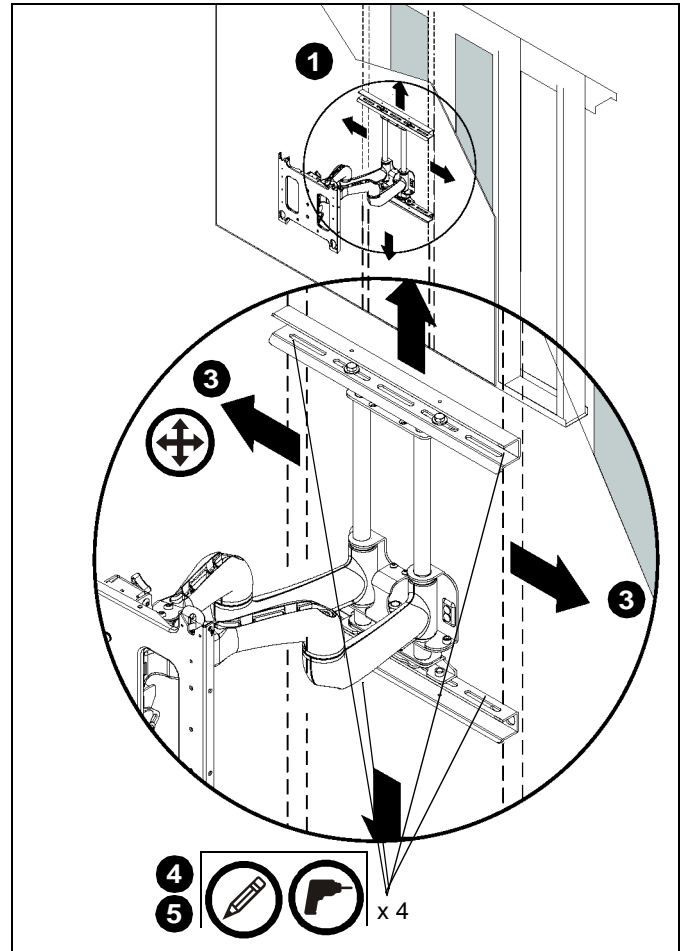

Figure 2
3. Place and level mount against wall, aligning mounting holes in upper and lower wall channels with studs. (See Figure 2)
4. Mark four mounting holes making sure mounting holes are located as close as possible to center of studs. (See Figure 2)
5. Drill four 7/32" pilot holes where the mounting holes were marked. (See Figure 2)